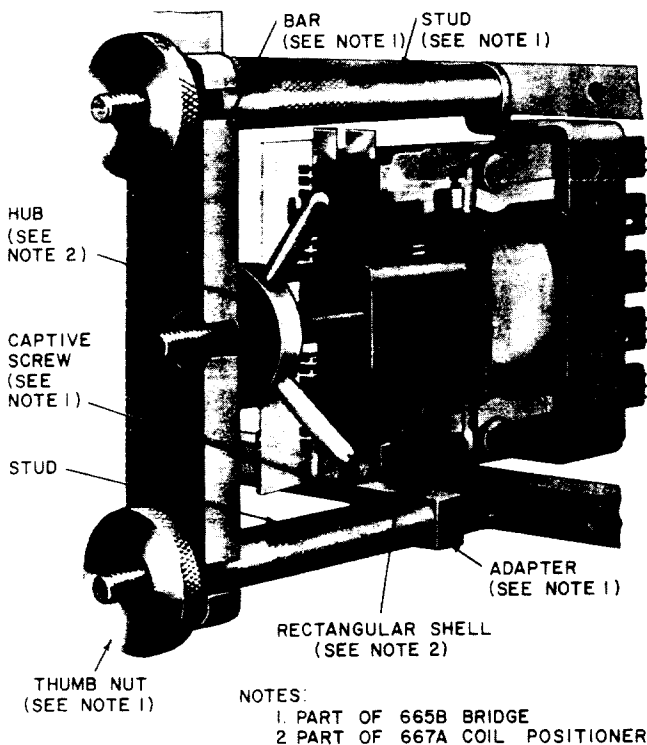

Fig. 8—286-Type Relay Mounting Coil
- (2) Place the hub of the 667A coil positioner on the screw of the positioner with the shoulder of the hub toward the outer end of the screw. Turn the hub on the screw as far as possible. Place the rectangular shell of the coil positioner on the outer end of the core. Position the bar of the 665B bridge on the studs with the end of the bar marked TOP uppermost and with the screw of the coil positioner passing through the center notch in the bar. Securely tighten the thumb nuts against the bar. Turn the hub of the coil positioner counterclockwise until the shoulder of the hub seats in the center notch of the bar, as shown in Fig. 8.